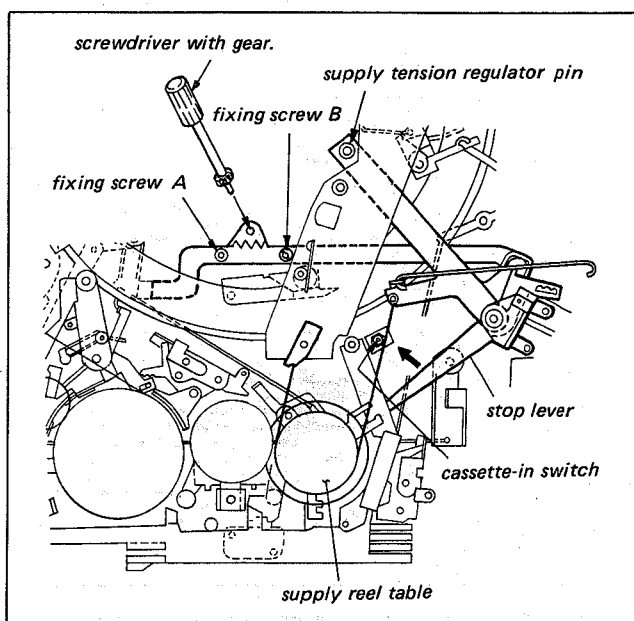

Fig. 4-27. S.tension regulator position adj. (REW mode) (FR-STOP mode without tape)
4. Loosen the fixing screws "A" and "B" 1/2 turns as shown in Fig. 4-27.
7. Turn the screwdriver with gear to clockwise direction (↻) until to move the Stop Lever in the direction shown by arrow in Fig. 4-27.